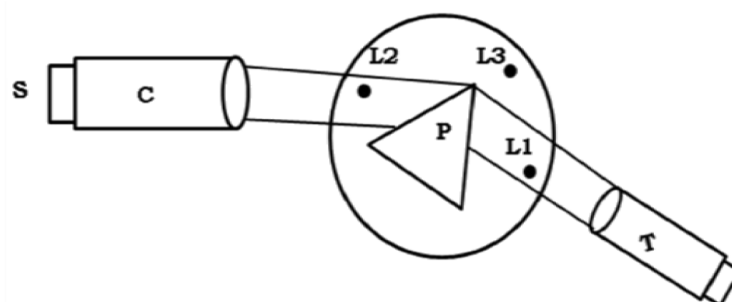

Figure 5.2: Adjustment of Spectrometer for observing dispersion of light.
5. Leveling the prism table and the prism: Initial adjustment of the prism table must be done using the leveling screws and a spirit level. Place prism P on the table of Spectrometer with one apex near the axis of the table. Turn prism so that the face XY (ground face) is perpendicular to the line joining two of the leveling screws L1 and L2. Turn the prism table so that light can be seen reflected from both the faces of the prism at position T1 and T2 of the telescope. (Refer figure 5.2). Setting telescope at T1 adjust L1 or L2. (as the case may be) until the slit image is central in the field of view. Set telescope at T2 and adjust L3 to have the slit image central. Repeat this until the image is at center regardless of the face through which is viewed.